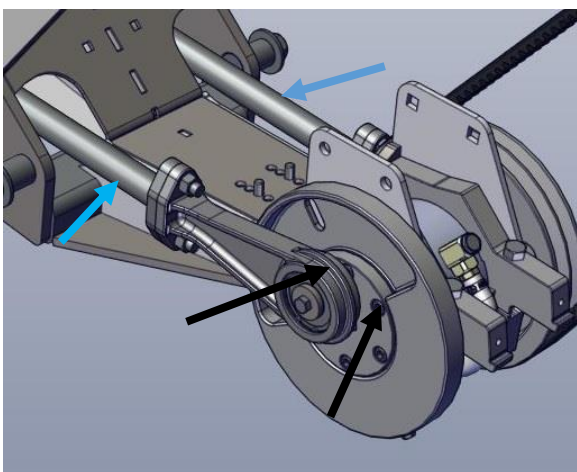

Figure 37
4. The lower knife drive bearing can be replaced by removing the connecting arms. Figure 37